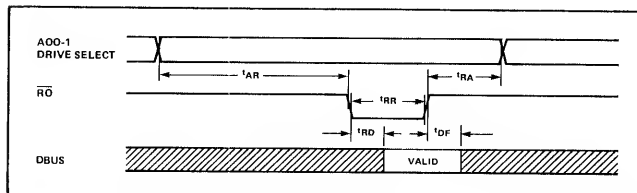

Figure 3-33. Register Read Timing
2. **Register Read Timing** Register read timing is shown in Figure 3-33. The AC characteristics are listed in Table 3-9.